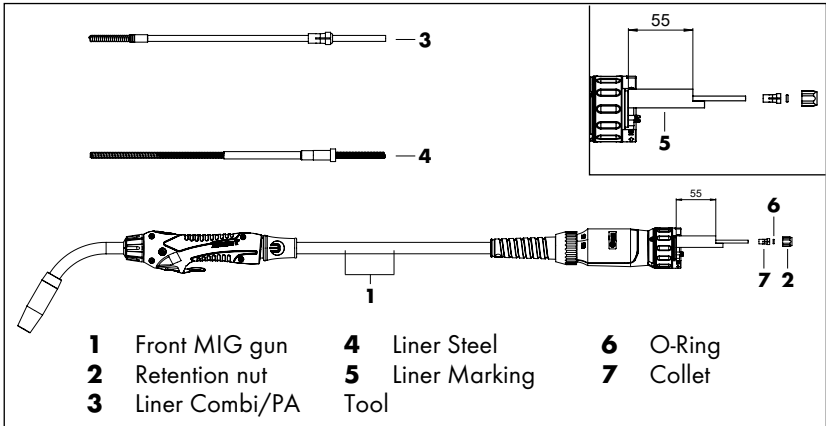

Fig. 8 Front Cable Liner
4. At the rear of the gun, the liner should be carefully trimmed at 50mm from the face of the rear connection block (see fig. 8). You can insert the liner marking tool (**5**) over the liner to assist in the marking of all liners and the cutting of plastic liners (see fig. 8).
4. At the rear gun, the liner should be carefully trimmed at 50mm from the face of the rear connection block (see fig. 8). You can insert the liner marking tool **(5)** over the liner to assist in the marking of the liner at the proper location.